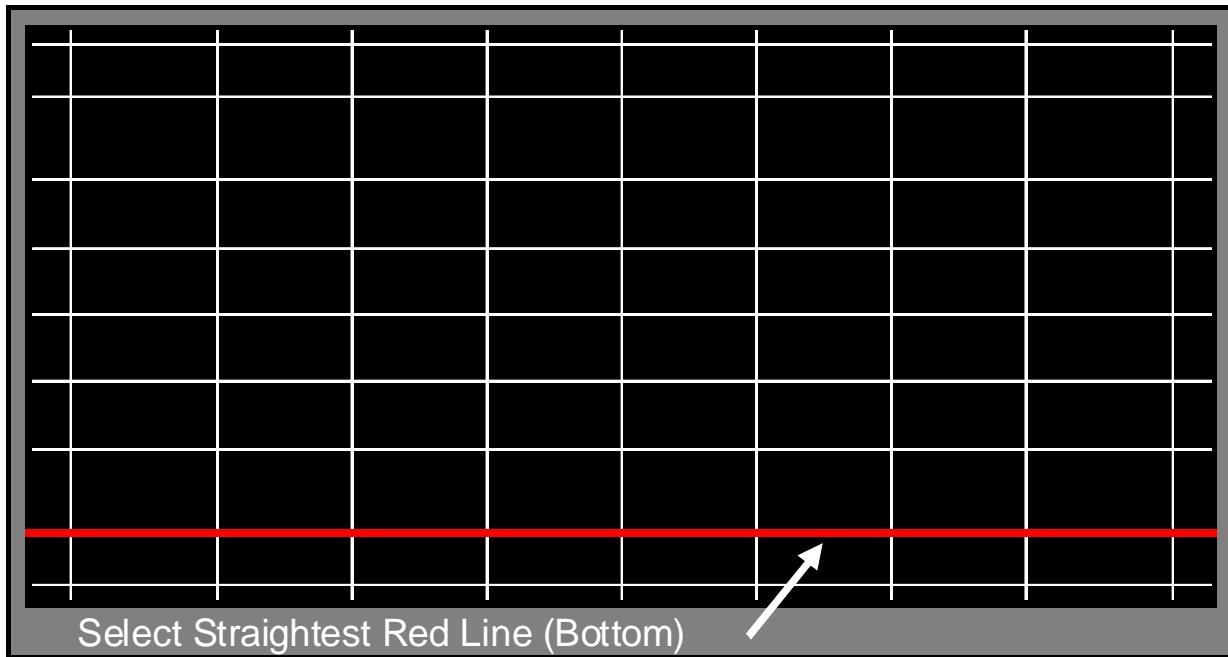

Figure 4: Bottom Letter Box Mode Pattern
12. Press "VIDEO" to activate the Bottom Letter Box alignment mode, refer to Figure 4.